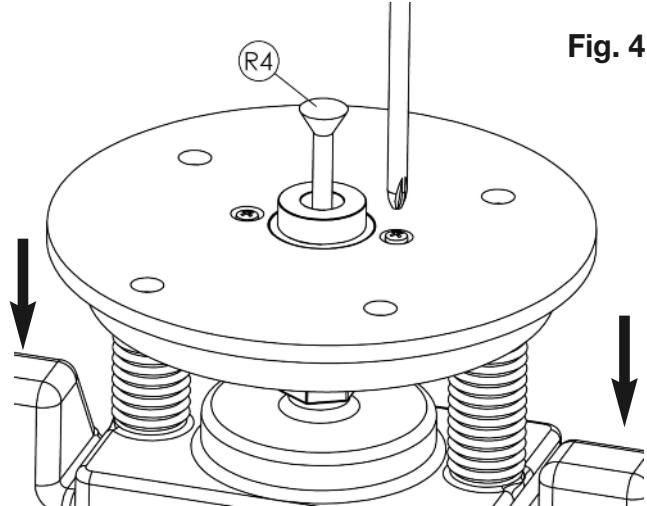

Fig. 4
3. Loosen the mounting screws of the base plate just enough to allow a little movement. (Fig. 4)